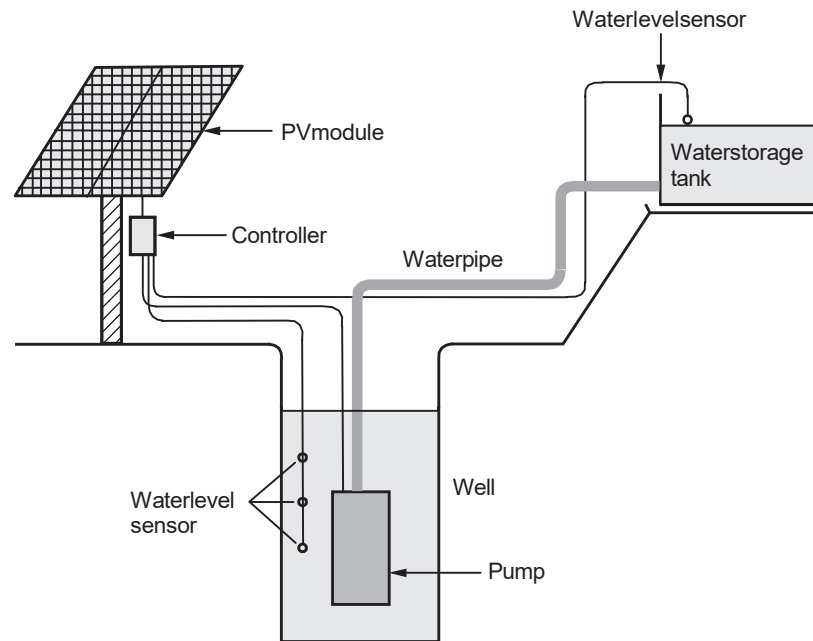

Fig. 2.20.2 Solar water pumping system
- Fig. 2.20.2 (See Fig. 2.20.2 on next page) shows schematic of solar water pumping system.
- In a solar photovoltaic (PV) lighting system, solar radiation replaces the burning of fossil fuels such as coal or natural gas or the harnessing of water power to generate the electricity necessary to power the lighting.
- Figure 2.20.2 shows the components in a typical solar PV lighting system.